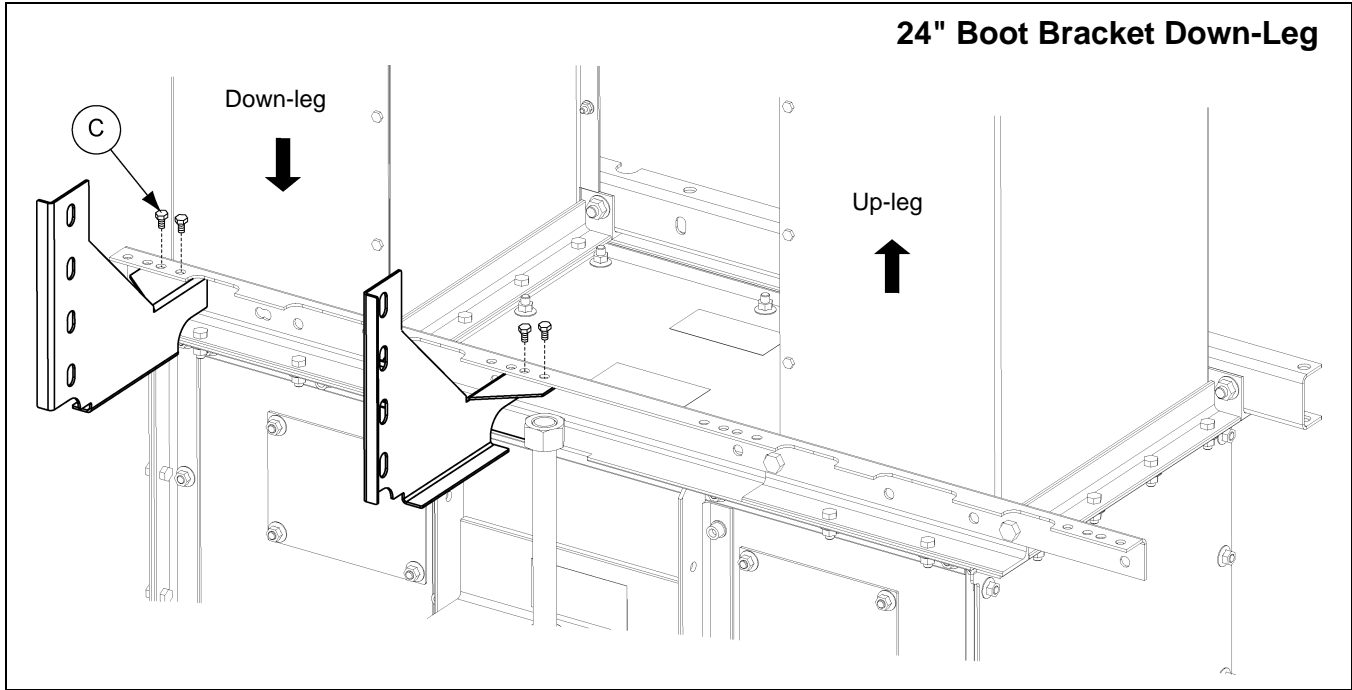

Figure 6E 24" Boot Bracket Down-Leg
- c. **24" Down-leg boot bracket:** Use 3/8" x 1" hex bolts to attach the ladder support brackets to the boot tie angle using the holes indicated in Figure 6E. Note the outer bracket will have two (2) empty holes to the outside of the connection at the tie angle.